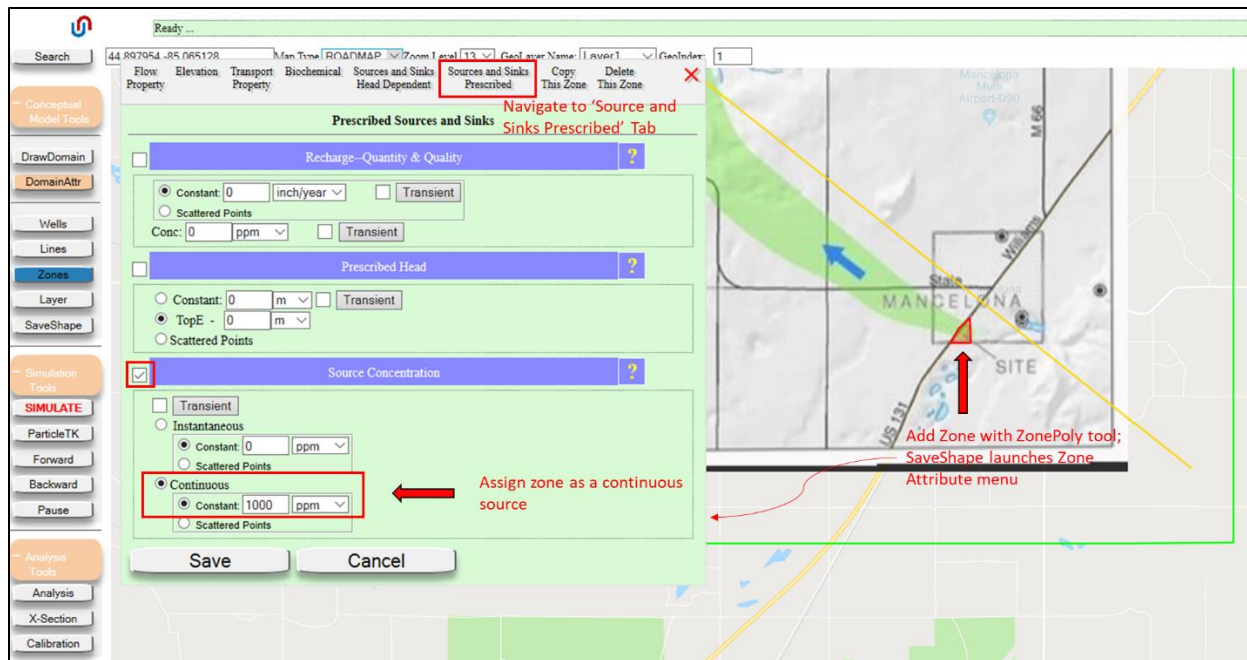

Figure 15. Adding a source of contamination at the spill site using the 'ZonePoly' tool and the Source and Sinks Prescribed tab of the Zone Attributes menu.
- Zoom into the site (see Figure 15), then use the 'ZonePoly' tool to draw a zone at the site. ('Conceptual Model Tools' > 'Zones' > 'ZonePoly')